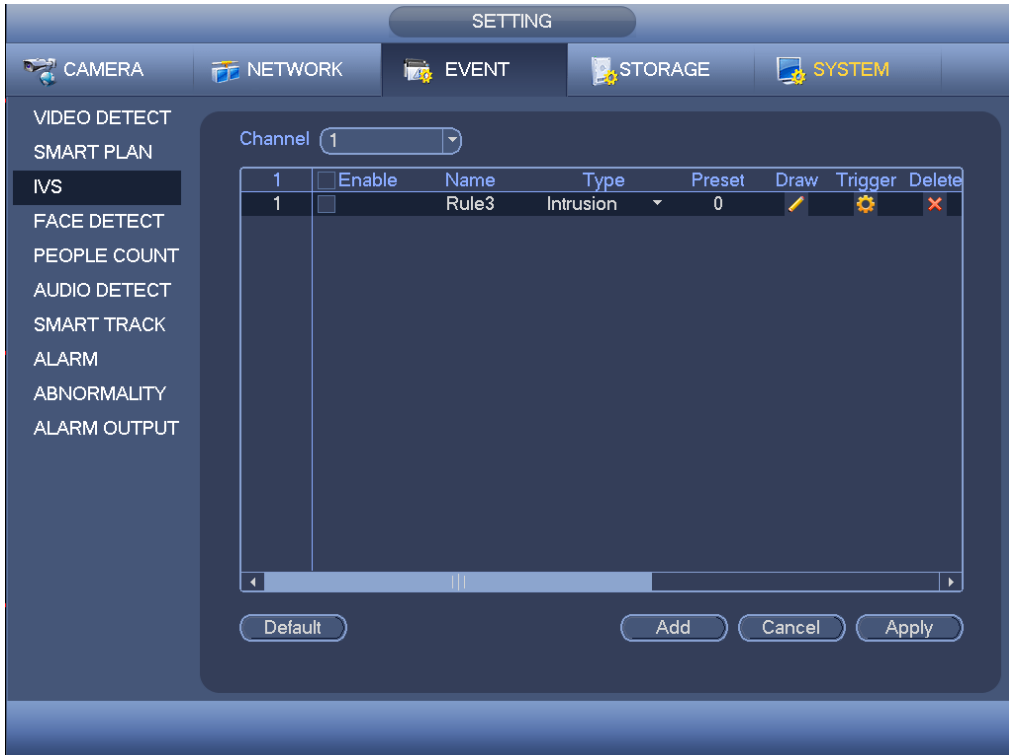

Figure 4-163
Step 1 From main menu->Setting->Event->IVS, click Add button and then select type as intrusion, the interface is shown as below. See Figure 4-163.